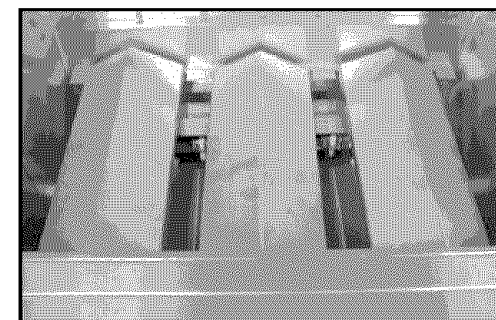

Fig. 16
2. Insert the second row of Flavor Grids into cutouts with triangle ridges facing up. (See Fig. 16)